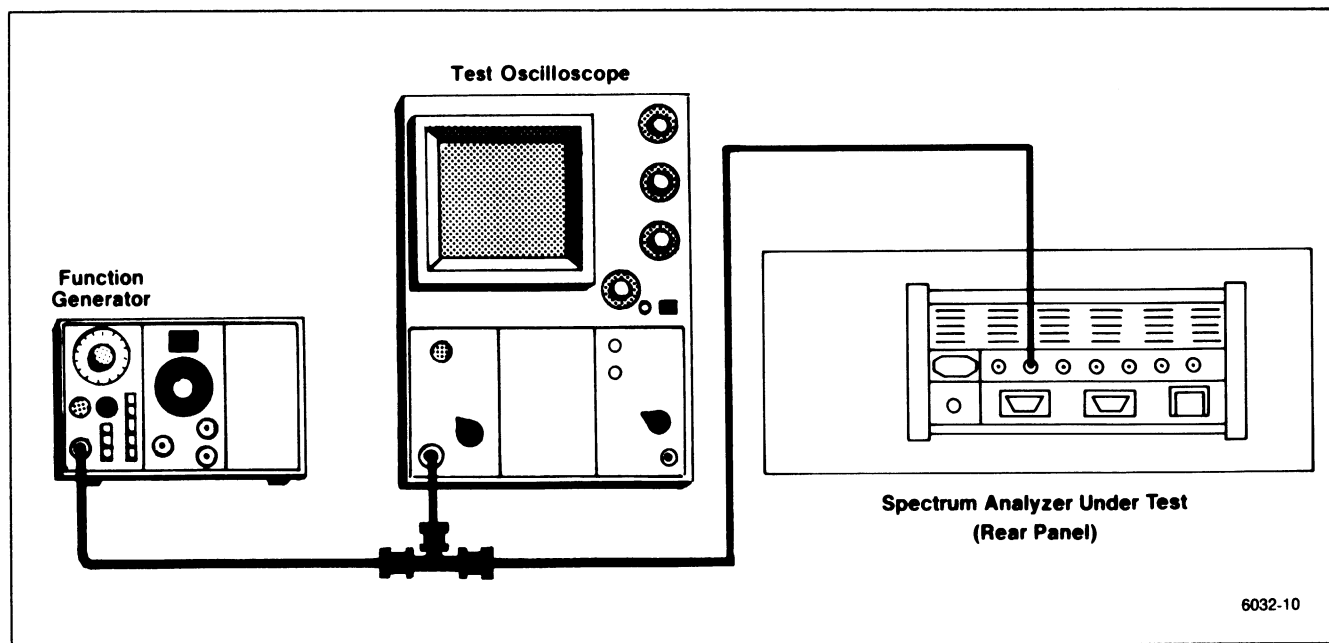

Figure 4-19. Test equipment setup for checking external triggering and horizontal input characteristics.
h. Connect the test equipment as shown in Figure 4-19.
a. Connect the test equipment as shown in Figure 4-19. Set the Spectrum Analyzer controls as follows: